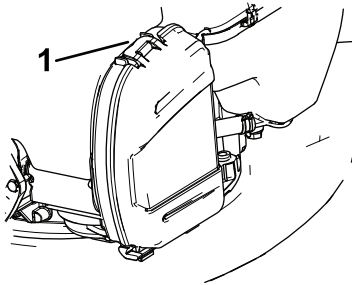

Figure 17
1. Lift the tab to open the air-filter cover (Figure 17).